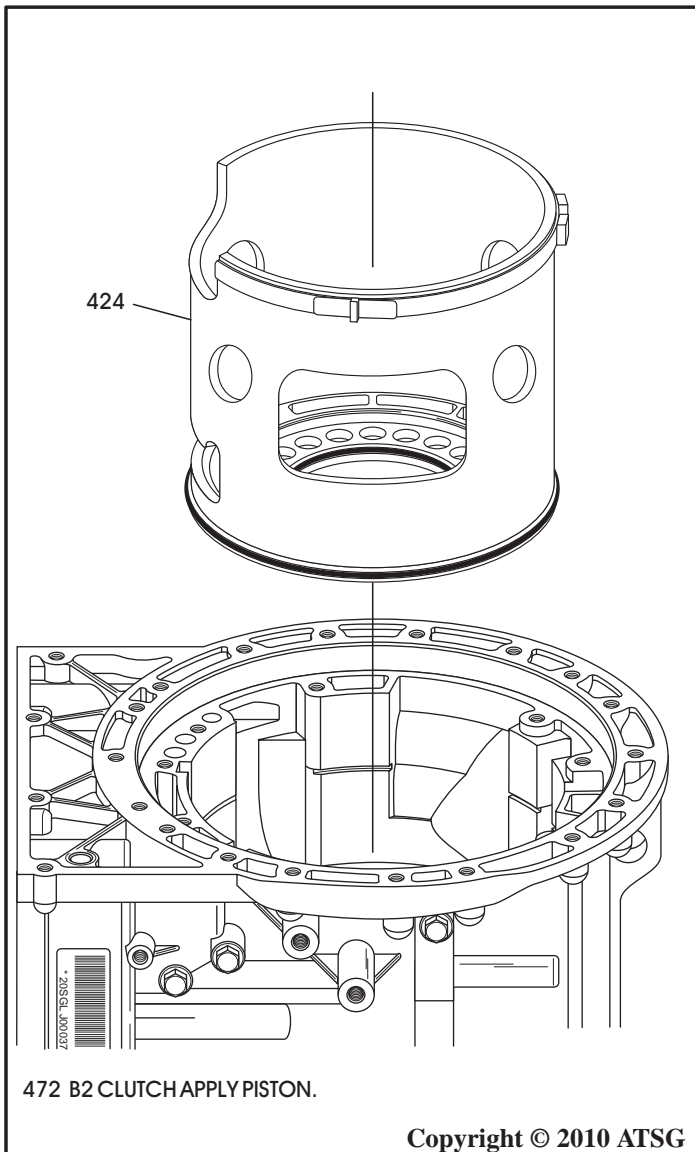

Figure 75
74. Now, you can remove the B2 clutch apply piston, as shown in Figure 75.